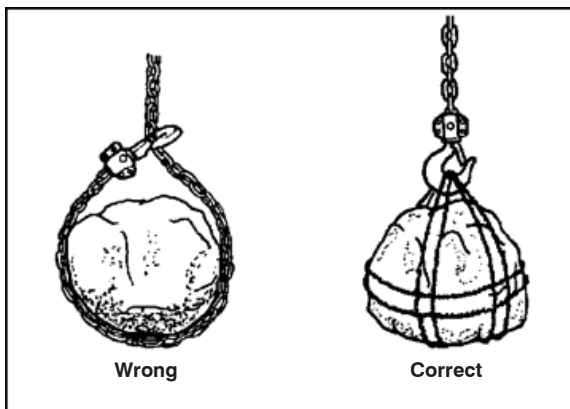

Figure 6
- When lifting loads, hook the load with slings. **Do not use the lever hoist chain as a sling (Figure 6).**